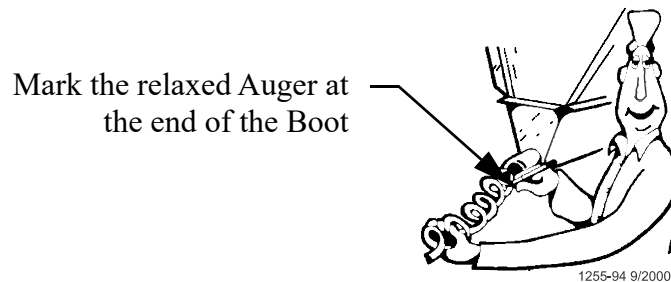

Figure 34. Measure the Auger from the relaxed position
10. Pull the auger at the boot end until it begins stretching. Then let it relax. In the *relaxed* position, mark the auger at the end of the boot. See **Figure 34**.